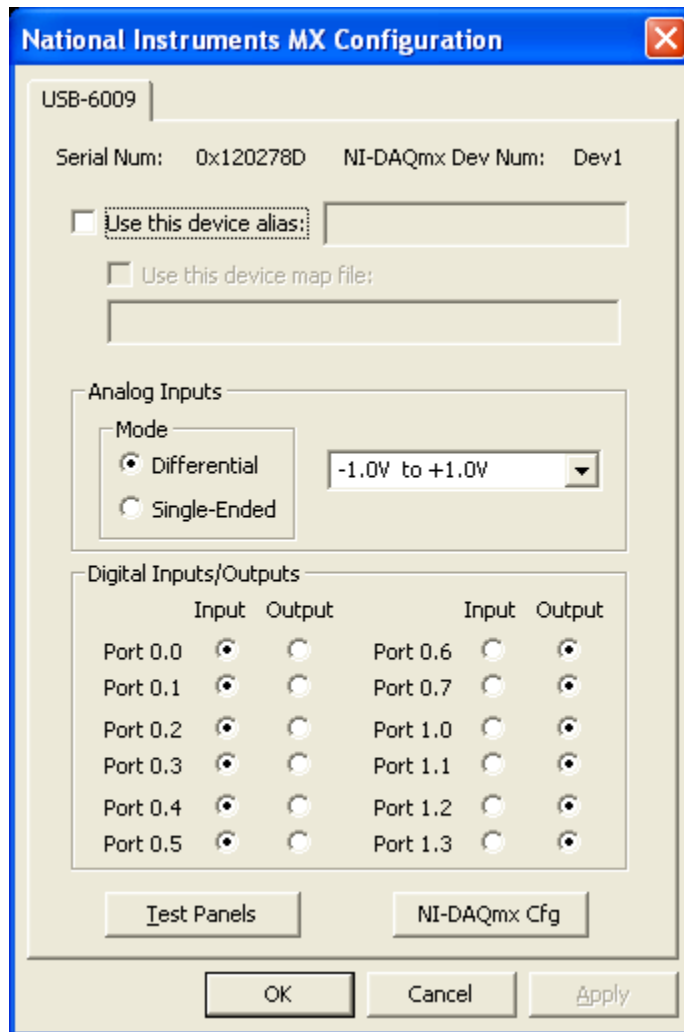

Figure 3. National Instruments MX Configuration Dialog Box
4. Click the **Configure** button to open the National Instruments MX Configuration dialog box (see Figure 3).